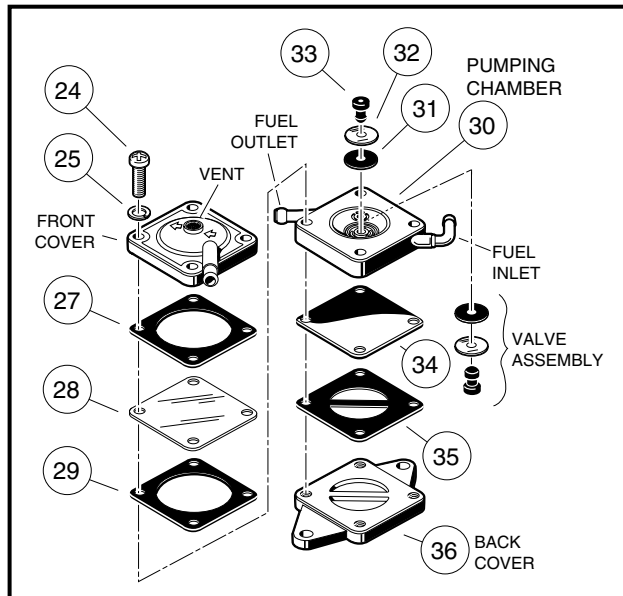
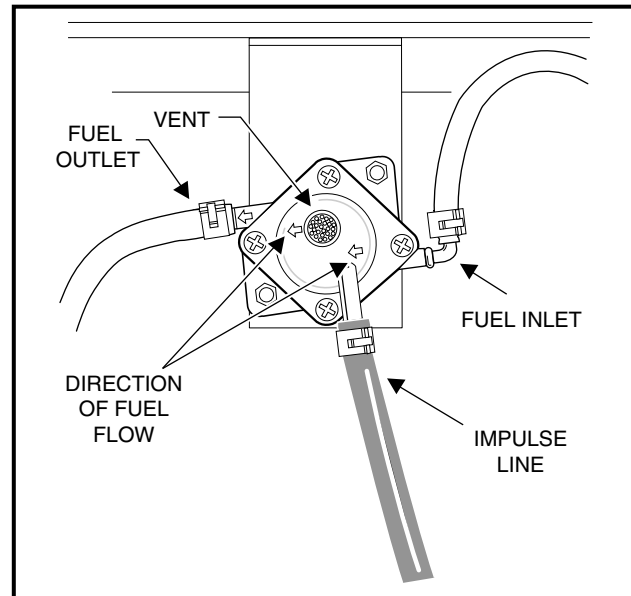

Figure 14-16 Fuel Pump
Figure 14-17 Fuel Pump Orientation
9. Remove the back cover (36), the fuel diaphragm (34) and gasket (35) (**Figure 14-16, Page 14-25**).
1. Remove four screws (24) and lock washers (25) from front of the fuel pump (**Figure 14-16, Page 14-25**).
3. Note the orientations of the impulse gasket (27), the diaphragm (28), and the gasket (29), then remove them from the pump (**Figure 14-16, Page 14-25**). **See following CAUTION.**
4. If the impulse gasket (27) and the diaphragm (28) come off with the front cover, note their orientations and remove them (**Figure 14-16, Page 14-25**).
5. Remove the pumping chamber (30) (**Figure 14-16, Page 14-25**).
6. Remove the back cover (36), the fuel diaphragm (34), and gasket (35).
2. Inspect the valve assemblies (31, 32, and 33) and all gaskets and diaphragms for damage (Figure 14-16, Page 14-25).
3. If a valve assembly is damaged, the rubber retaining plug (33) and valve assembly must be replaced (Figure 14-16, Page 14-25).
1. Install the fuel gasket (35) and diaphragm (34) on the back cover (36) (Figure 14-16, Page 14-25).
2. Install the valve assembly in the pumping chamber (30) (Figure 14-16, Page 14-25). See following CAUTION.
3. Install the pumping chamber (30) on top of the fuel diaphragm (34). Be sure the fuel inlet and the fuel outlet align with the arrows on the front of the front cover (Figure 14-16, Page 14-25).
4. Install the gasket (29), clear impulse diaphragm (28), and the paper impulse gasket (27) to the pumping chamber (30).
5. Install the front cover and then the lock washers (25) and four screws (24) on the assembly (Figure 14-16, Page 14-25). Be sure the arrows on the front cover point from the fuel inlet to the fuel outlet (Figure 14-17, Page 14-25). Tighten the screws to 26 in-lb (3.0 N·m).